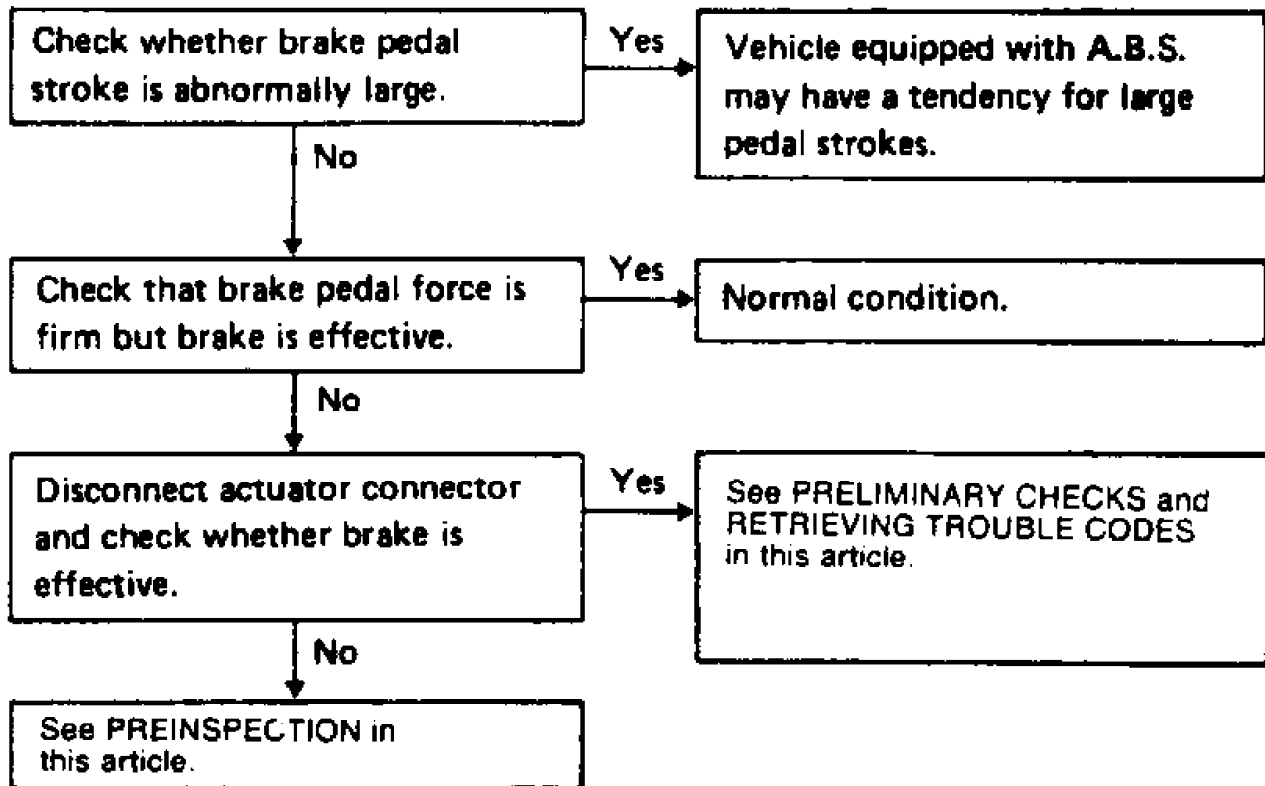

Fig. 10: No Code - Abnormal Pedal Action Trouble Shooting Chart
- Abnormal Pedal Action - See Fig. 10.